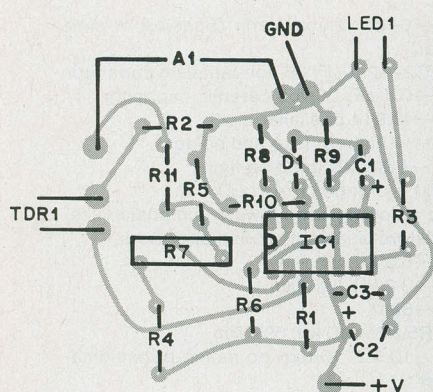

Fig. 5. Actual-size etching and drilling guide for a printed circuit board for the Infrared Road Icing Alert is shown above right. Component layout above left.
Another inverting op-amp circuit that can be used for in-circuit resistance measurement appears in Fig. 5. Here, the resistance to be measured ( $R1$ ) functions as the stage's input resistance and a constant-voltage source drives the network. The output voltage generated by the op amp is *inversely* proportional to the value of the component to be measured, and is monitored by a voltmeter placed across the feedback resistor. As was the case in the previous circuit, feedback forces the HIGH TERMINAL to virtually ground potential. No voltage drop exists across  $R2$ , so the desired isolation of  $R1$  is achieved. Shunt component  $R3$  has no effect on the resistance measurement because it is connected directly across the constant-voltage source.
**Circuit Construction.** Although the circuit is simple enough to use direct point-to-point wiring on conventional perforated board, an actual-size foil pattern is shown in Fig. 5 along with the component installation. Note that *TDR1*, *F1*, *S1* and *A1* are not mounted on the small board. Though a single-turn potentiometer can be used for *R7*, a 10-turn type is recommended. If your alarm (*A1*) is a 6-volt version, use *R11*. If *A1* is a 12-volt type, *R11* can be eliminated. Resistor *R8* determines the "on" time for the alarm. Making this resistor smaller in value increases the *A1* "on" time. Conversely, for a shorter "beep," increase the value of *R8* to 3.3 kΩ.